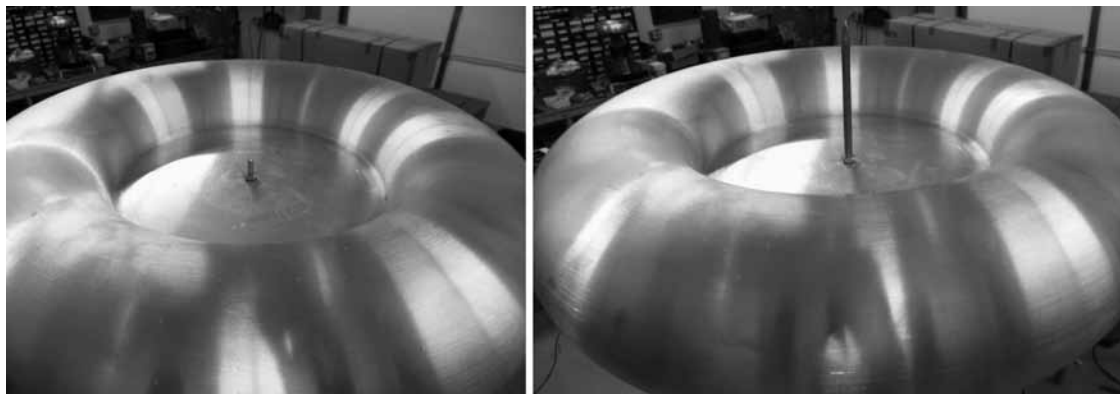

Figure 10-104 Toroid attachment.
- Optionally, screw a brass spine to top of coil above the toroid (this is the breakout point) (Fig. 10-104).